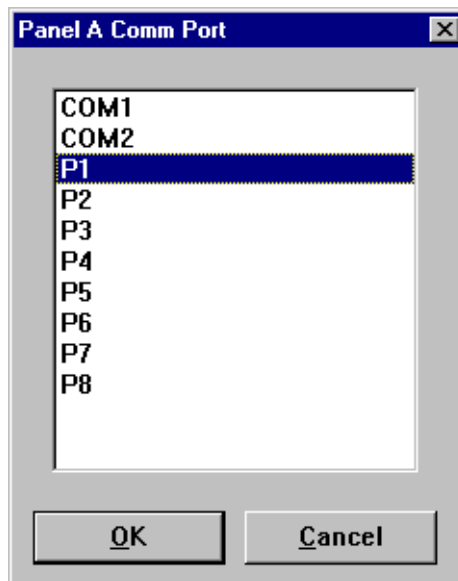

Figure 78. Comm Port dialog box
2. Choose **Controller | Comm Port** to open the Comm Port dialog box. An example of this dialog box is shown in Figure 78.
9. Choose **Controller | Comm Port** to open the Communication Port dialog box (see Figure 78 on page 163).